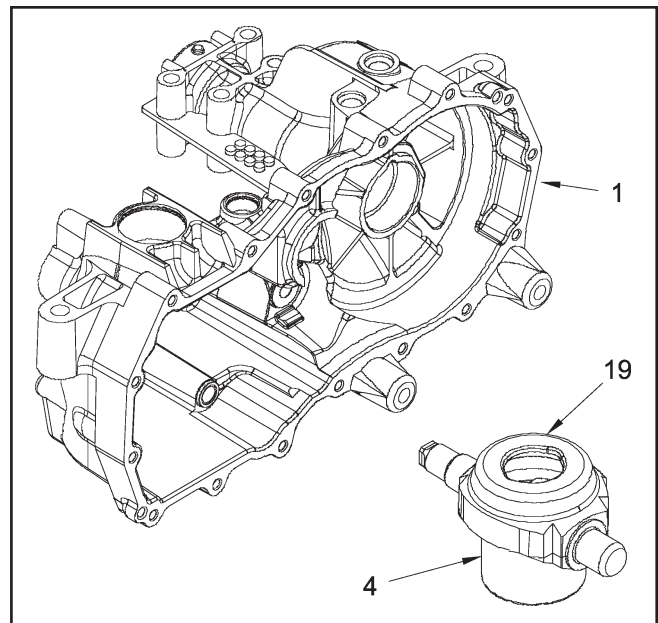

Figure 16.
7. **(See Figure 16)** Remove the swashplate (19) and pump cylinder block (4) as one assembly. NOTE: Removal will be aided by applying a small amount of pressure on the trunnion mounted swashplate towards the center section. Also note that the control arm (23, page 18) may be loosely assembled at this point to assist in swashplate removal. While gently removing the swashplate and block assembly, keep the block face flush with the center section to minimize damage to the running surface.